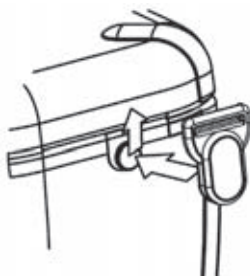

Fig.54
Correct assembly is shown in Fig 54, 55 and 56. By hanging the instrument round the neck, both hands will be left free for testing.
1. Attach the Buckle to the KEW6016 as shown in Fig.54.